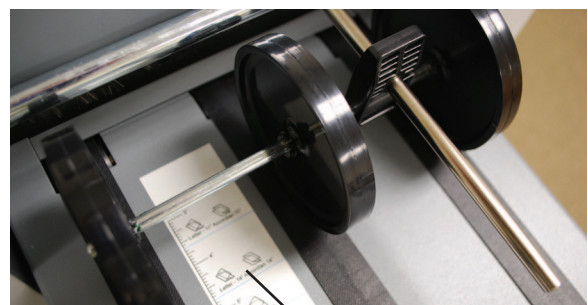

Fig. 7b
- 5b. Set the conveyor out feed wheels. Align the center of the out-feed stacker wheels with the appropriate fold/form setting on the "Fold/form size decal" (Fig 7b).